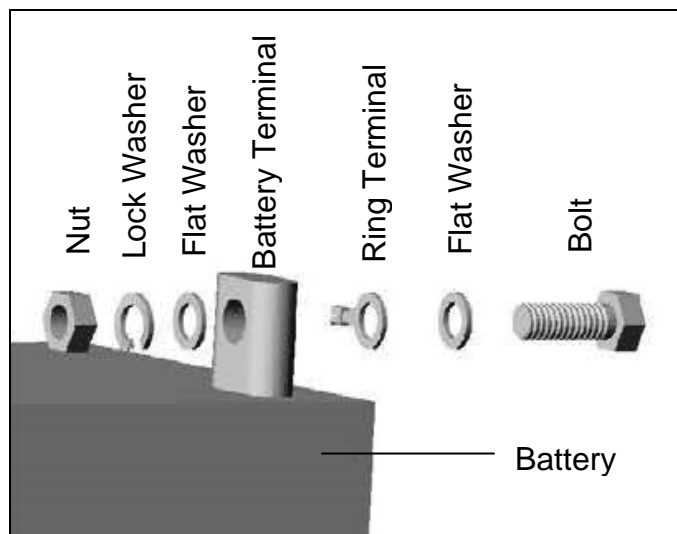

Figure 8
1. Use the screws, washers, and nuts provided to connect the positive (red booted) connector of each cable to the positive (+) terminal of each battery. See figure 8 and figure 9.